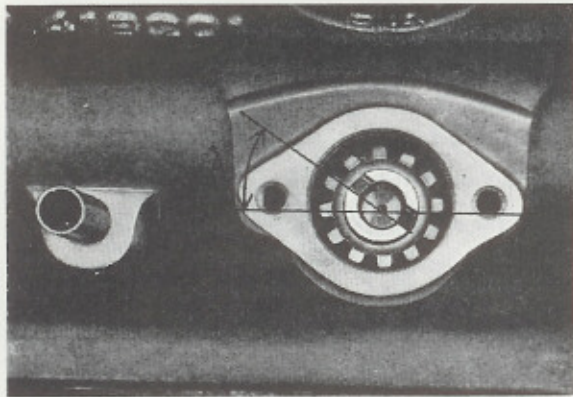

Fig. 21-46. Location of distributor pinion
6. Install the distributor pinnion. When the engine is at top dead centre and firing on No. 1 cylinder, install the pinnion for the oil pump and distributor. The small end of the groove is faced obliquely upwards-backwards and the groove is set at an angle of about 35° to the longitudinal direction of the engine (see A, Fig. 21-46). Make sure that the shaft goes down into its groove in the pump shaft. (NOTE! When the marking on the timing gears are opposite each other then the No. 6 piston is at top dead centre, firing position.)